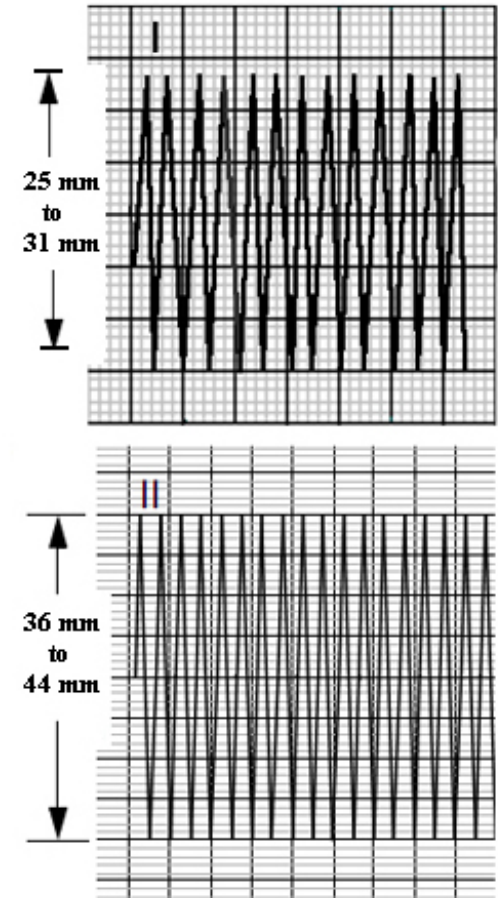

Figure 5.36—Signal amplitude for 5-lead gain test
4. Print five seconds of ECG Lead I, and confirm the printed signal amplitude is 25 mm to 31 mm, peak-to-peak, as shown in Figure 5.36.